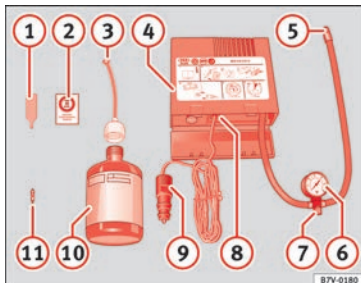

Fig. 69 Standard representation: contents of the anti-puncture kit.
- Unscrew the tyre valve cap and insert. Use the »» **Fig. 69 ①** tool to remove the insert. Place it on a clean surface.
- Shake the tyre sealant bottle vigorously »» **Fig. 69 ⑩**.
- Screw the inflator tube »» **Fig. 69 ③** into the sealant bottle. The bottle's seal will break automatically.
- Remove the lid from the filling tube »» **Fig. 69 ③** and screw the open end of the tube into the tyre valve.
- Place the insert back into the tyre valve using the tool »» **Fig. 69 ①**.
- Screw the compressor tyre inflator tube »» **Fig. 69 ⑤** into the tyre valve.
- Check that the air bleed screw is closed »» **Fig. 69 ⑦**.
- Insert the connector »» **Fig. 69 ⑨** into the vehicle's 12-volt socket »»  page 162.
- Turn the air compressor on with the ON/OFF switch »» **Fig. 69 ⑧**.